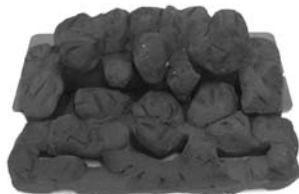

Fig 4b
Step 2 Place the rear matrix cut out section over the base matrix and centralise the assembly between the end tabs of the location bar. Ensure the rear matrix is pushed back against the location bar. (Fig 4b)